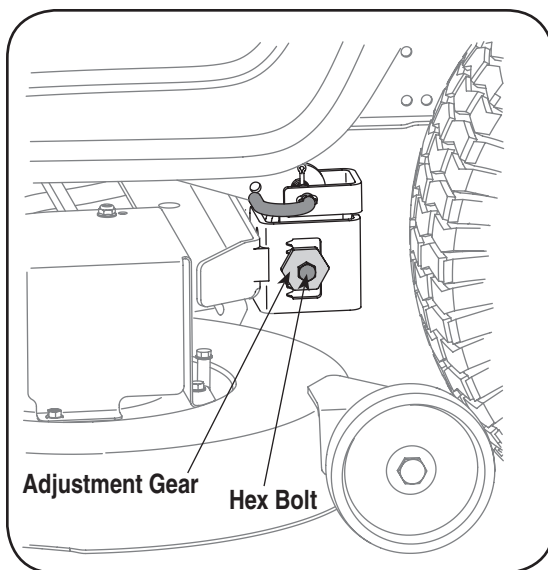

Figure 5-2
3. Loosen, but do NOT remove, the hex cap bolt on the left deck hanger bracket. See Fig. 5-2.